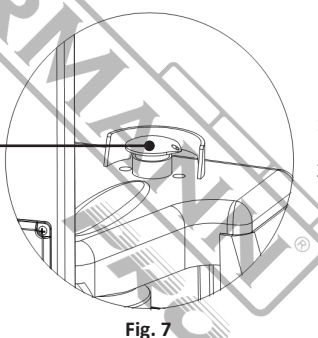

Fig. 7
**Starting the unit (Fig. 7)**